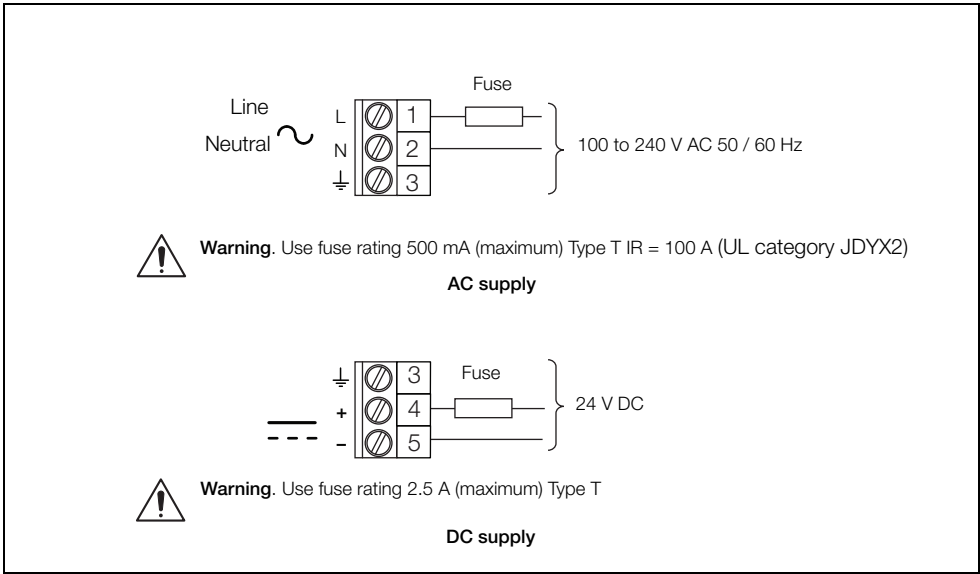

Fig. 4.7 Power supply connections
- The recorder is not fitted with a switch therefore a disconnecting device such as a switch or circuit breaker conforming to local safety standards must be fitted to the final installation. It must be fitted in close proximity to the recorder within easy reach of the Operator and must be marked clearly as the disconnection device for the recorder. A fuse must be fitted in accordance with Fig. 4.7, page 19.